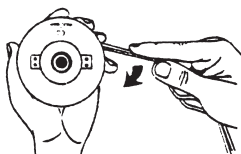

Fig. 18.
5. Wind both ends of the line onto the spool, clockwise as shown in fig. 18. Hold the line in your fingers so that it is taught as it is wound on, stop when roughly 15 cm of the line ends remain.